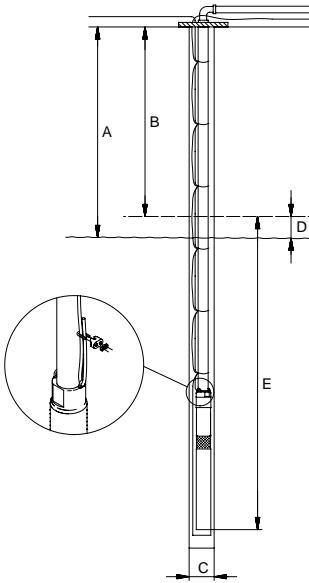

Fig. 10 Installation depth
- When plastic pipe is used, a stainless steel safety wire is recommended for lowering and lifting the pump. Fasten the wire to the eyelet on the pump, see fig. 10.
The dynamic water level should always be above the pump, see fig. 10.